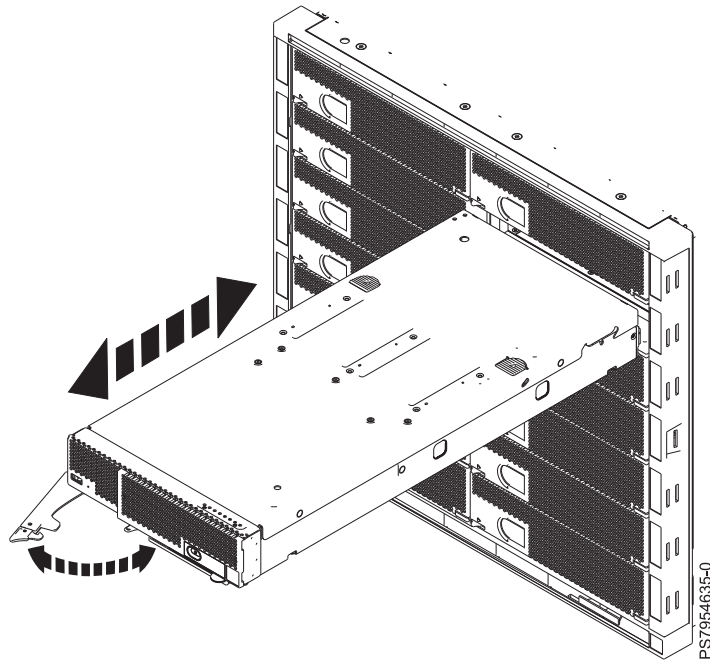

Figure 5. Removing the compute node from the IBM Flex System Enterprise Chassis
5. Open the release handle, as shown in Figure 5 on page 31. The compute node can be moved out of the bay approximately 0.6 cm (0.25 inch).